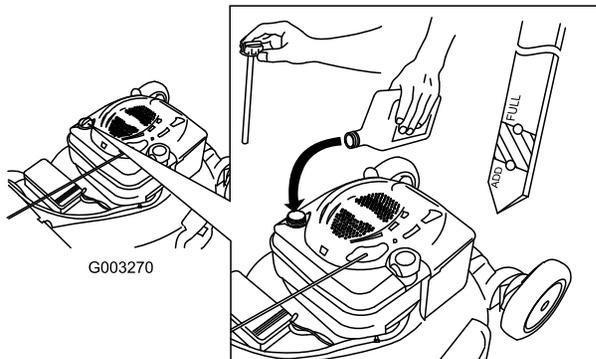

Figure 9
1. Remove the dipstick (Figure 9).
2. **Slowly** pour oil into the oil fill tube until the oil level reaches the Full line on the dipstick (Figure 9). **Do not overfill.** (Max. fill: 20 oz. (0.59 l), type: SAE 30W